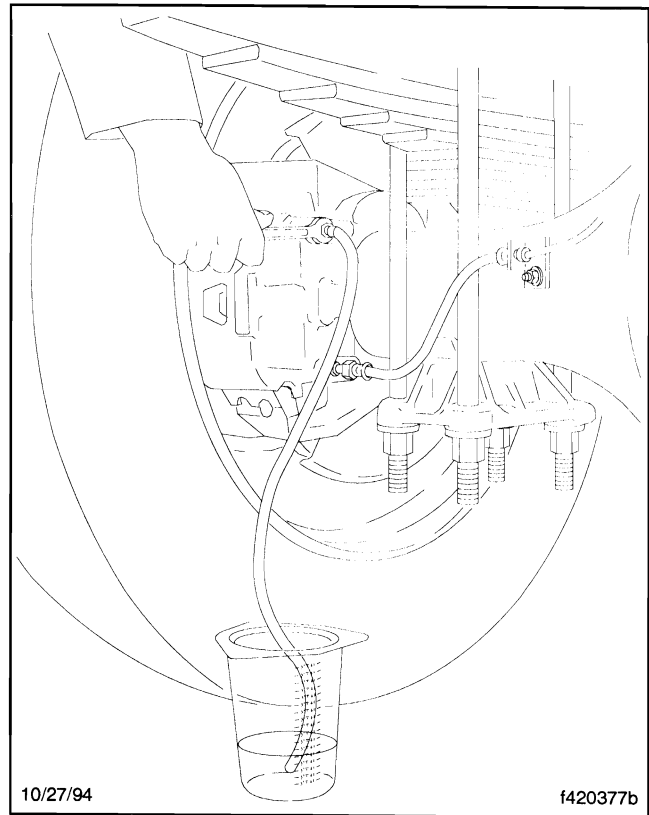

Fig. 3, Bleeding the Connections at the Rear Wheel Calipers
- 2.1 Place a wrench on the bleeder fitting at the caliper, then attach a length of clear tubing to the bleeder fitting. Make sure the tube fits snugly. Submerge the tubing in a container of clean brake fluid. See **Fig. 3**.